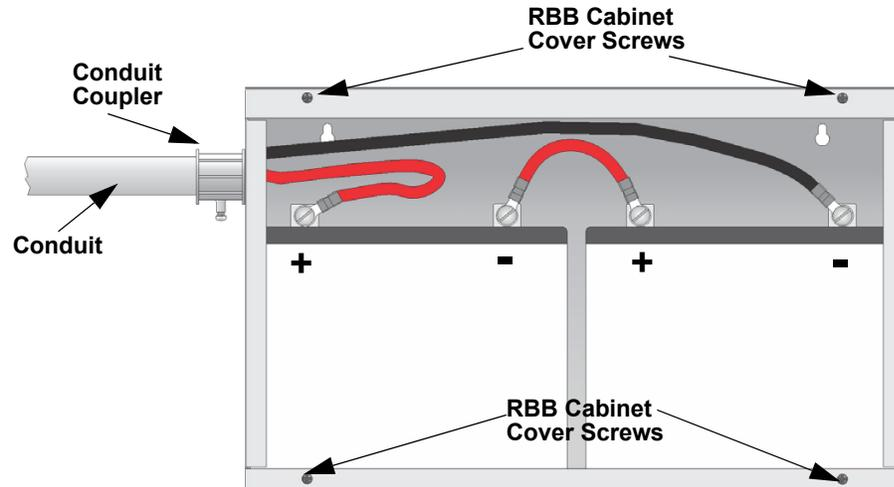

Figure 4.6 Battery Connections in the RBB Cabinet
- Run extended battery cable from control panel cabinet through conduit to RBB cabinet. See Figure 4.6.
NOTE: Figure 4.6 is an example of how the wire connections can be routed. However, any other cabinet knock-outs (on either the main control panel or the RBB cabinet), that are not previously being used may be utilized to connect conduit between the two cabinets.
- Connect battery leads to the backup battery terminals. See Figure 4.6. Observe the proper polarity to prevent damage to the batteries or the control panel.
- Insert the RBB cover screws into the cover mounting holes (see Figure 4.6). Screw the cover screw 3/4 of the way into the cover mounting hole.